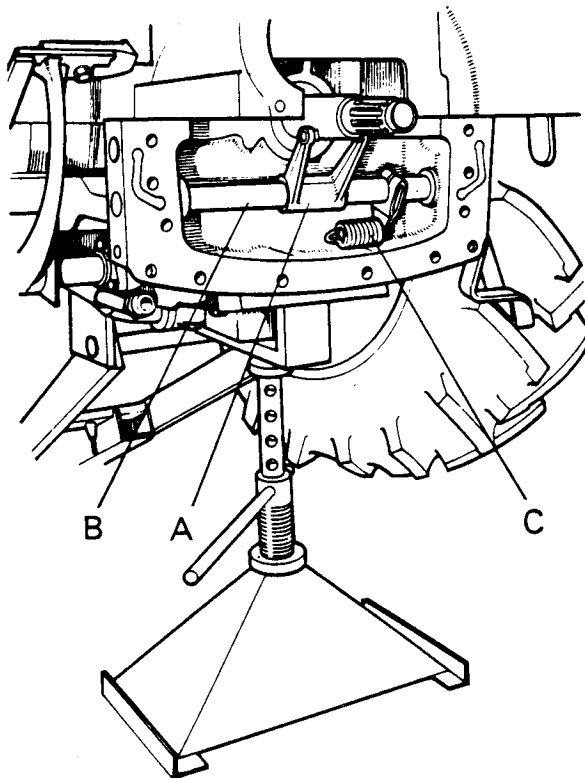

Figure 43.
15. With the aid of an assistant, carefully push front of tractor forward until there is a 3 to 4 in. (8 to 10 cm) gap in frame. Remove bolt attaching return spring lever to transmission cross shaft (Fig. 43) so that shaft can turn as main frames are moved further away. If release bearing is fitted with a lubrication pipe, disconnect this from side of main frame.